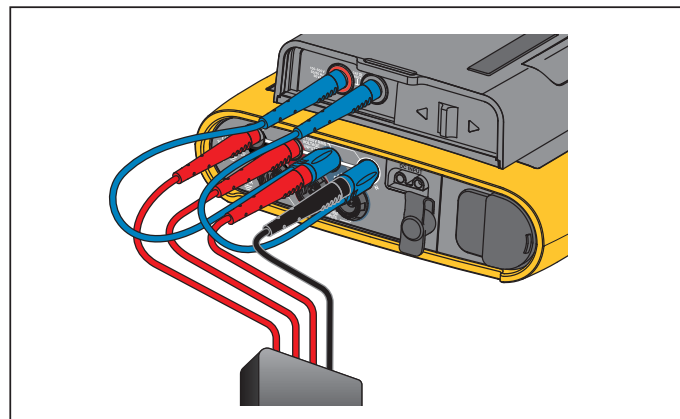
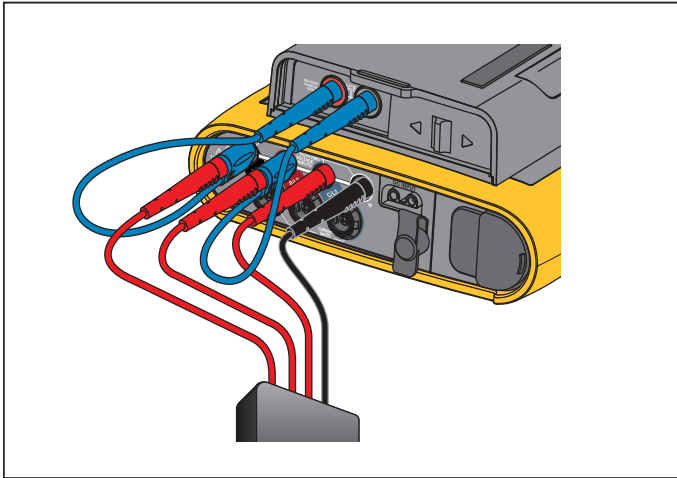

Figure 7. Measurement with Neutral Voltage and Instrument Power Supply
Figure 8. Measurement without Neutral Voltage and Instrument Power Supply
3. Connect the short test leads (see Figure 7 and Figure 8) with the power supply inputs. Make sure to use the non-stackable plugs. The test leads are rated for measurement/overvoltage CAT III 1000 V and CAT IV 600 V.
7. See Figure 7 to supply power to the Logger from installations with neutral voltage.
- See Figure 8 to supply power to the Logger from installations without neutral voltage.